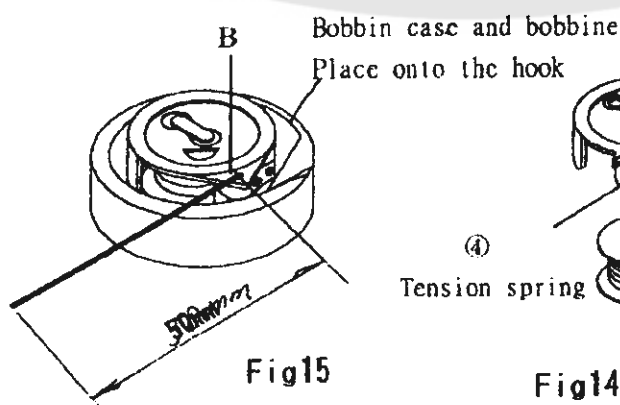

Fig15
- 4) The thread is inserted through the hole (B) and pulled out about 50mm in length as shown in fig.15